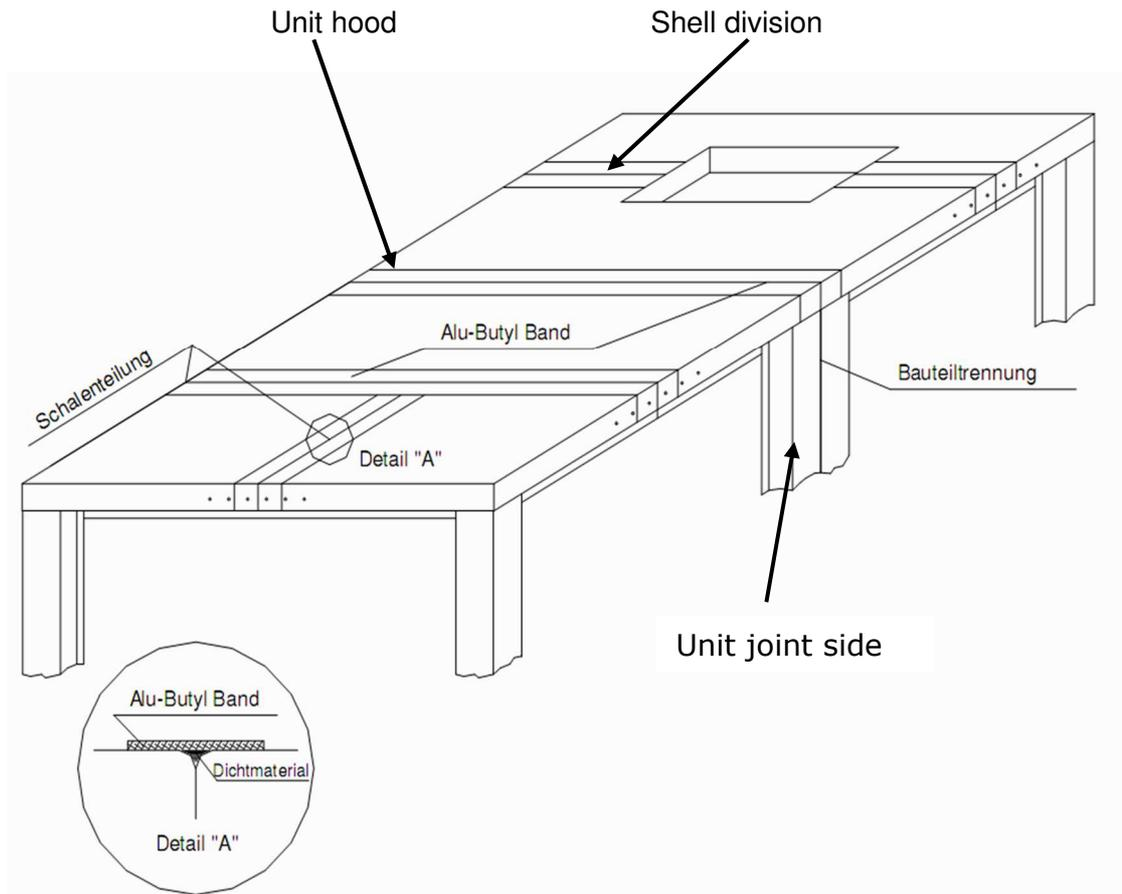

Figure 3.16: Application of the unit hood seal for outdoor installation of air handling units
When determining the height of the foundation, the necessary siphon height must be taken into consideration (see section 3.5). All structural parts must be made of Sendzimir galvanised steel. The floor support pad of the air handling unit has no edges, so that there is also the possibility of structure-borne noise insulation with insulating strips (see section 3.3) without on-site foundation. 333The surface quality inside and out for air humidifiers, air handling units must be weather-proof and have a hygienic design, in accordance with the quality provisions of standards and directives (see section 1.3.1.1). Air handling units for outdoor installation are additional installed with a rear-ventilated hood (see **Figure 3.16**).
**Figure 3.16** shows the air handling unit hood seal with outdoor installation of air handling units from Rox-Klimatechnik GmbH. The application of the air handling unit hood seal requires a high level of precision and care so that the seal can be assured. **N e c e s s a r y a s s e m b l y m a t e r i a l** is included with the air handling units.